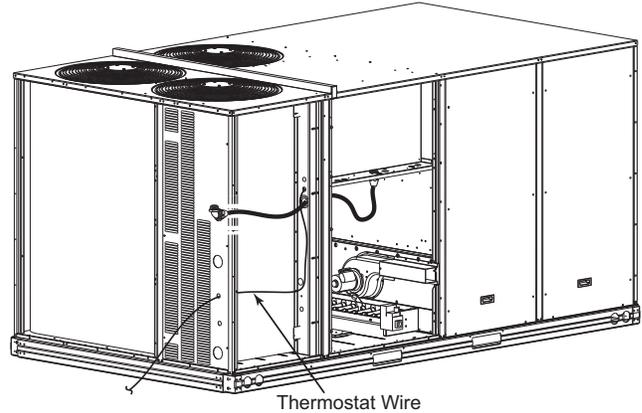

Fig. 52 — Thermostat Wire Routing
Pass the thermostat control wires through the bushing on the unit end panel. Route the wire through the snap-in wire tie and up to the web bushing near the control box. Route the wire through the bushing and into the bottom left side of the control box after removing one of the two knockouts in the corner of the box. Using a connector at the control box to protect the wire as it passes into the control box pull the wires over to the terminal strip at the lower left corner of the Integrated Staging Control (ISC) Board. Use the connector at the control box and the wire tie to take up any slack in the thermostat wire to ensure that it will not be damaged by contact with the condenser coil. See Fig. 52.
1. Route the humidistat 2-conductor cable (field-supplied) through the bushing in the unit's louvered end panel (see Fig. 52).
4. Use the connector and the wire tie to reduce any slack in the humidistat cable to ensure that it will not be damaged by contact with the condenser coil (see Fig. 52).